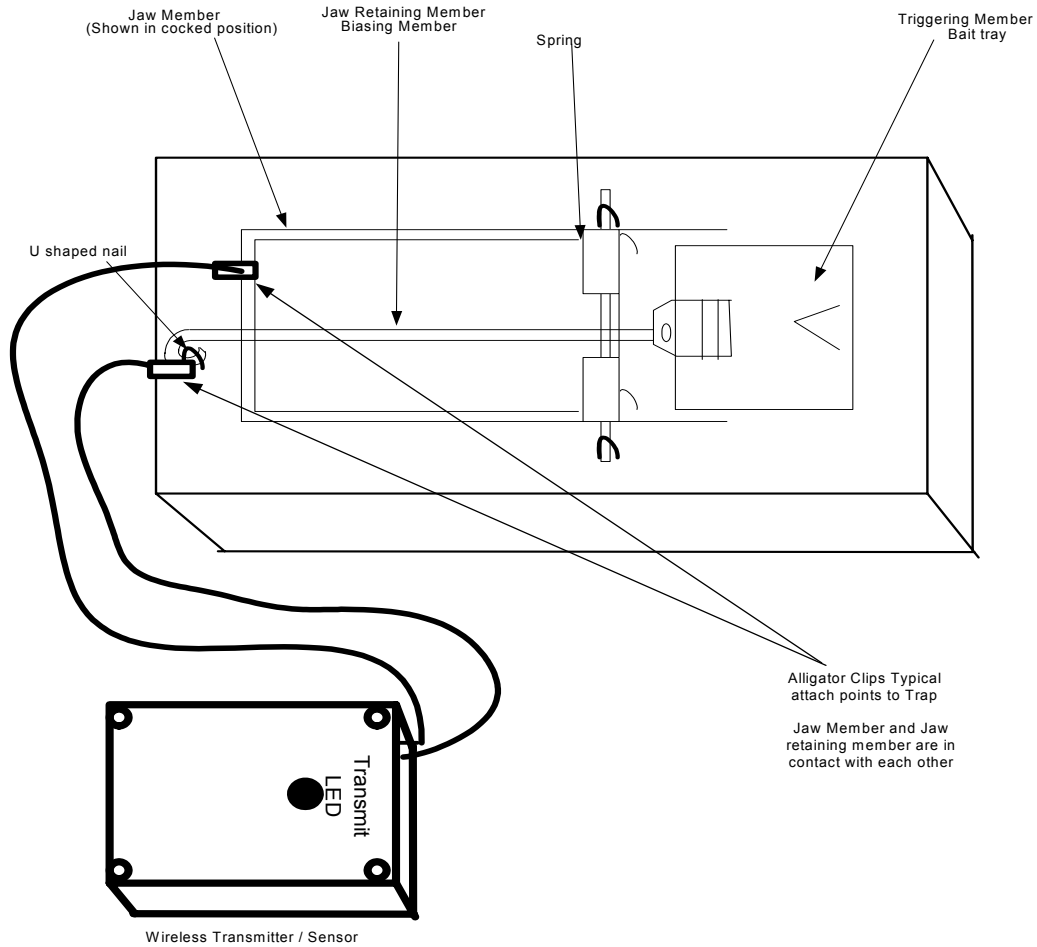

Figure 3--- Wireless Spring Loaded Animal/ Rodent Trap
1. Place Live trap in the area required and mount Transmitter on Cage door frame as shown in Fig 3.
1. Attach the leads to the wood animal trap as shown in Fig 3.
1. Place Live trap in the area required and attach Transmitter as shown in Fig 3.